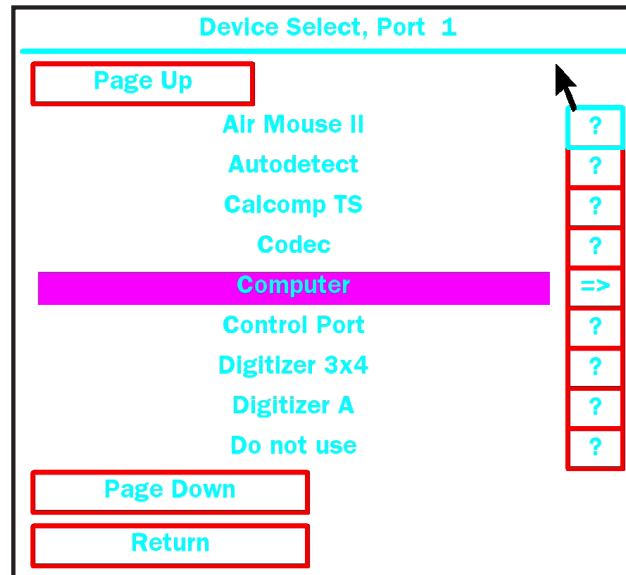

Figure 3-24: Device Select Dialog
1. **Select the appropriate device type in the Device Select dialog for the port where you are connecting the other system** (see Figure 3-24: Device Select Dialog, on page 52).